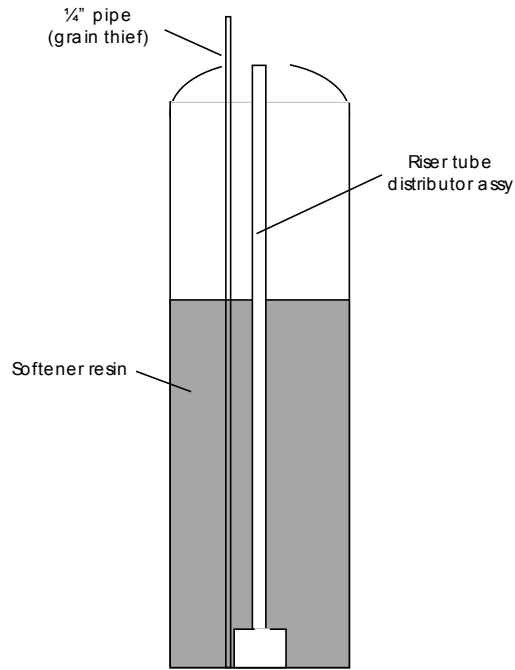

Figure 5-1: Grain thief for resin sampling
- F. To provide the most accurate information on resin condition, a resin sample must be representative of the entire bed. Use a "grain thief" or related device to take a core sample of the resin bed (refer to Figure 5-1).